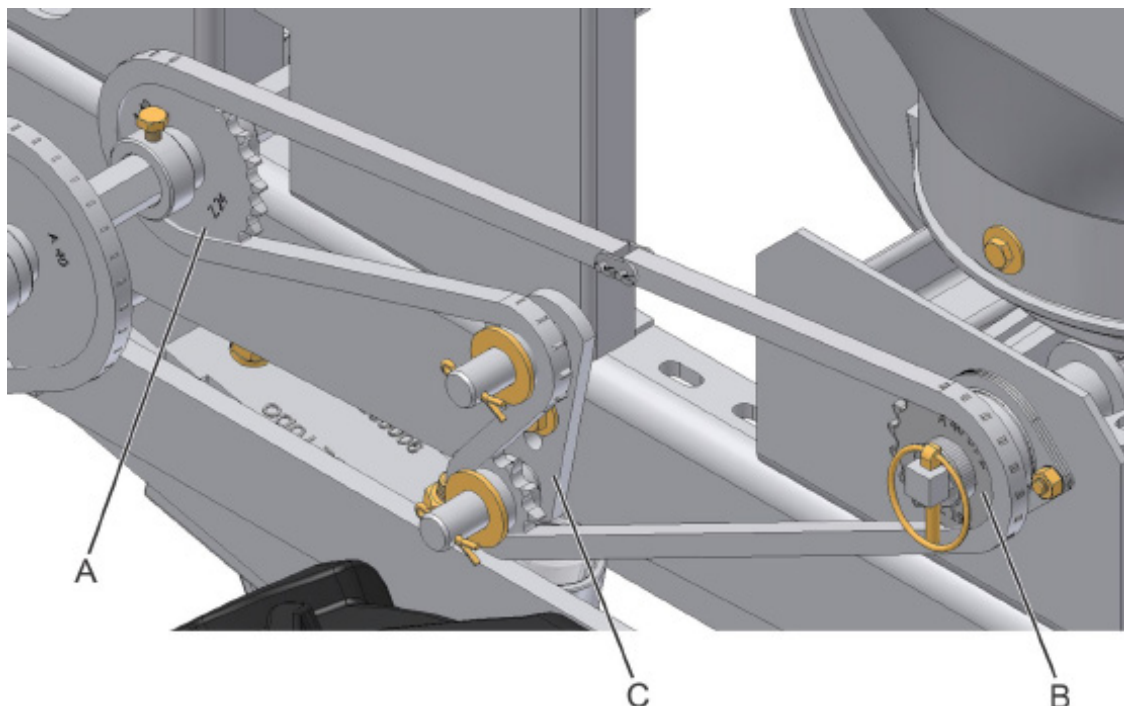

fig. 11
The adjustment of the quantity of seeds per hectare is executed through the interchange of the drive (A) (fig. 11), and driven cogwheels (B).